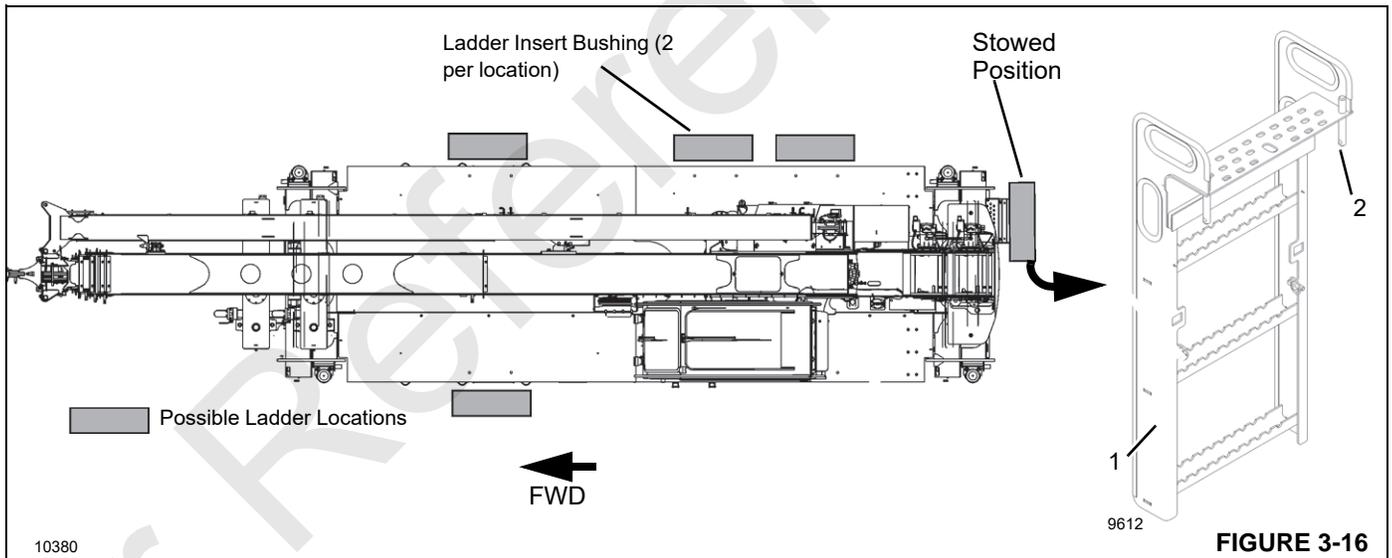

FIGURE 3-16
Use the movable ladder (1, Figure 3-16) stowed on the right (passenger) rear bumper to access different areas of the decking. In the stowed position, use the ladder to access to the rear of the crane and the hydraulic tank and hoist area of the superstructure.
crane. Figure 3-16 shows the possible locations. The ladder must be stowed in the rear bumper position and secured to the bumper with lynch pins prior to transport.
2. Using the handles, lift the ladder so the ladder pins (2, Figure 3-16) are removed from the holes in the rear bumper.
To stow the ladder (1, Figure 3-16) in rear bumper stowage location for transport:
1. Lift and remove the ladder pins (2, Figure 3-16) from the bushings in the deck.
2. Lift the ladder and install the ladder pins (2) in the bushings in the top of the rear bumper.
1. Select the location to install the ladder. See Figure 3-16 for locations.